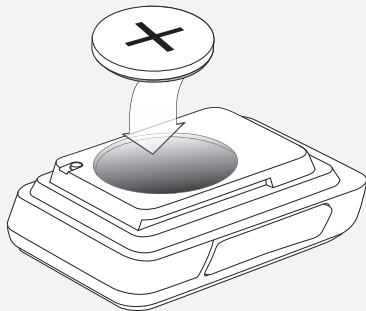

Figure 35. Battery Replacement.
Replace the battery in the computer when the battery indicator gets to 10% (when the indicator shows no bars). Before removing the computer battery, note the Trip and Total values. When the battery is removed, the computer automatically does a Reset (erase settings) and changes function totals to zero (0). After installing a new battery (Figure 35), you can manually set your totals.